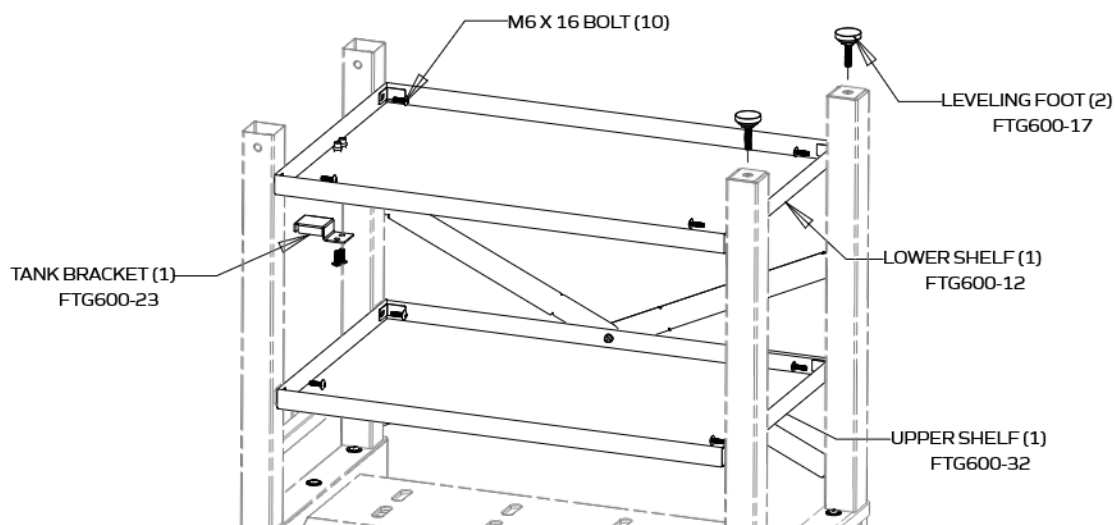

FIG 2
5. Install the upper shelf as shown in Figure 2. Tighten all hardware.
6. Install the lower shelf as shown in Figure 2. Tighten all hardware. Note: Lower shelf has extra holes for the tank bracket. Shelf must be oriented so that the tank bracket is on the
7. Install the tank bracket as shown in Figure 2. Tighten all hardware.
8. Install the leveling feet as shown in Figure 2. (Note: The leveling feet can be adjusted later to level the grill)